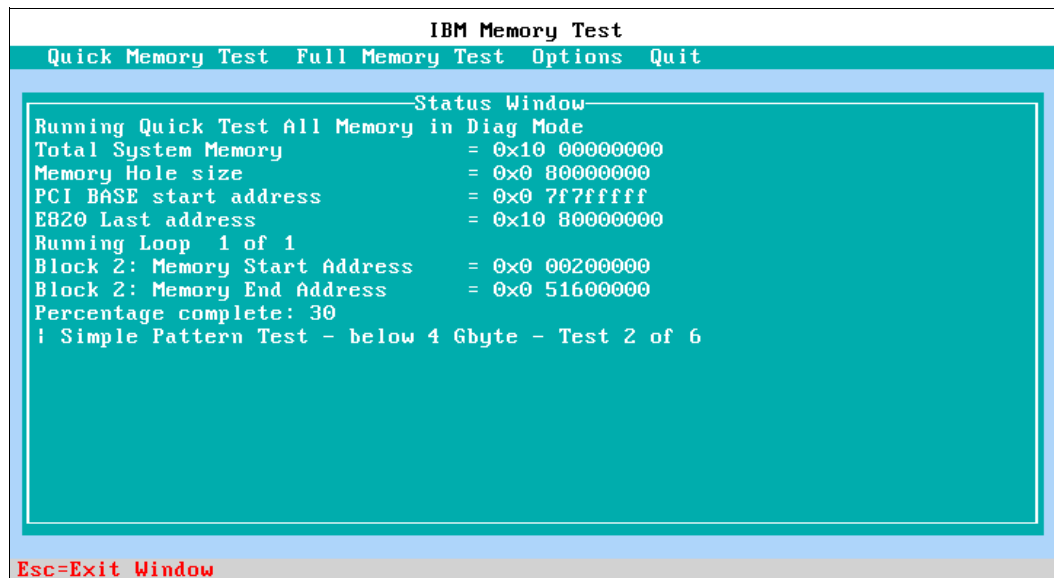

Figure 7-7 Quick Memory Test progress panel
3. The quick diagnostics continue to run, reporting each test that the quick diagnostics are currently performing and the length of time that it will take to complete that test. If an error occurs, the quick diagnostics stop and indicate the memory errors encountered before progressing into more advanced diagnostics, as shown in Figure 7-7.